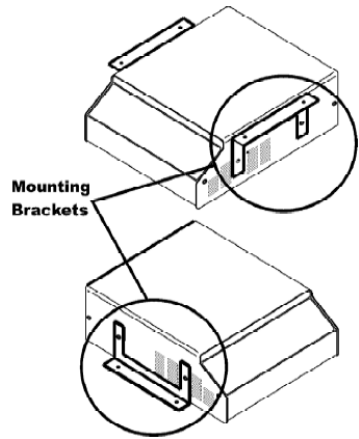

Figure 2. Mounting VCM Power Supply
2. Attach two mounting brackets, (see Figure 2), to the VCM with M4 x 8 screws (provided in kit). Use mounting bracket as a template to mark the two mounting hole locations.